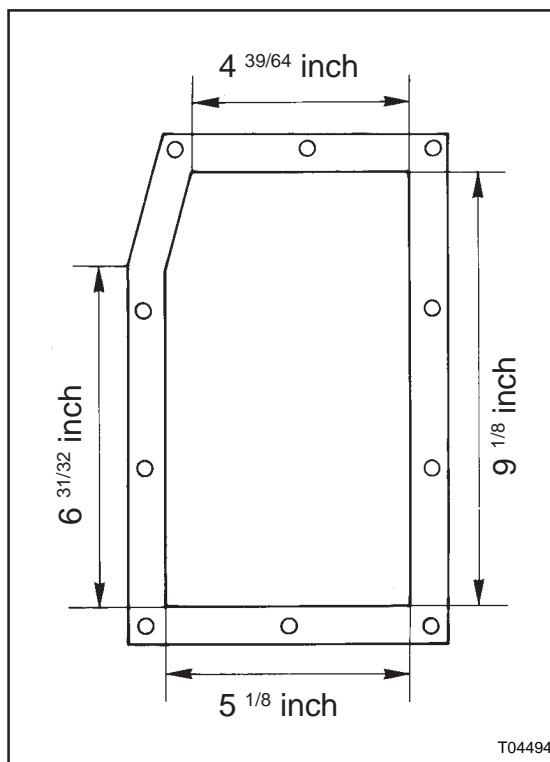

Figure 42: Flitch panel opening dimensions
2. Cut flitch panel opening to size as shown in Figure 42. Deburr cutting edges with multi-cut file.